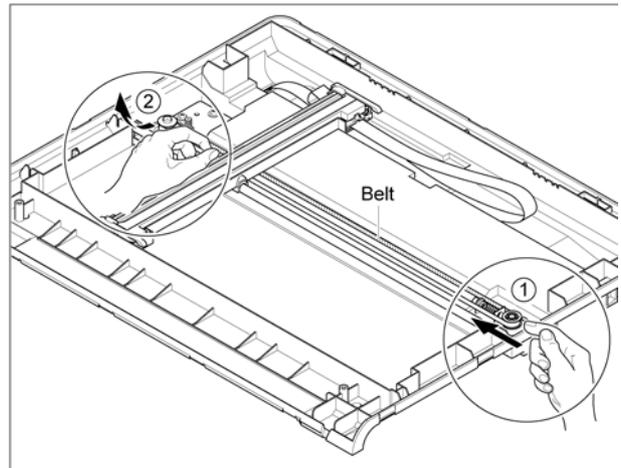

Figure 8
10. Release the Scanner Belt by pushing the Idle Pulley inwards, Figure 8.